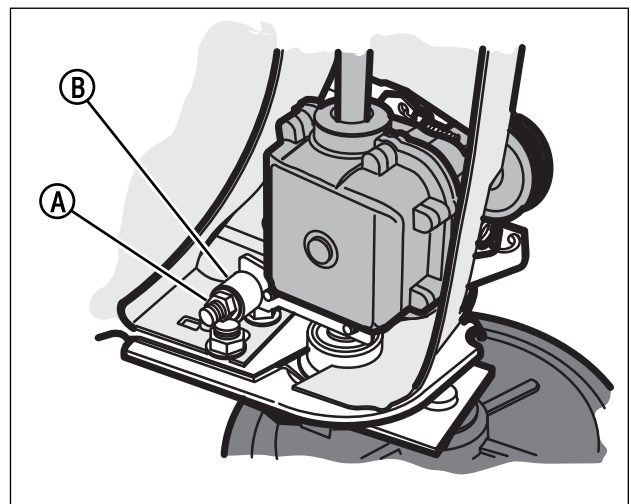

Figure 25: Setting the belt tension
- a. Tighten the adjuster nut (A, Figure 25) until the nut touches the spacer (B). Try to turn the spacer. When the adjuster nut touches the spacer, the spacer will not turn.